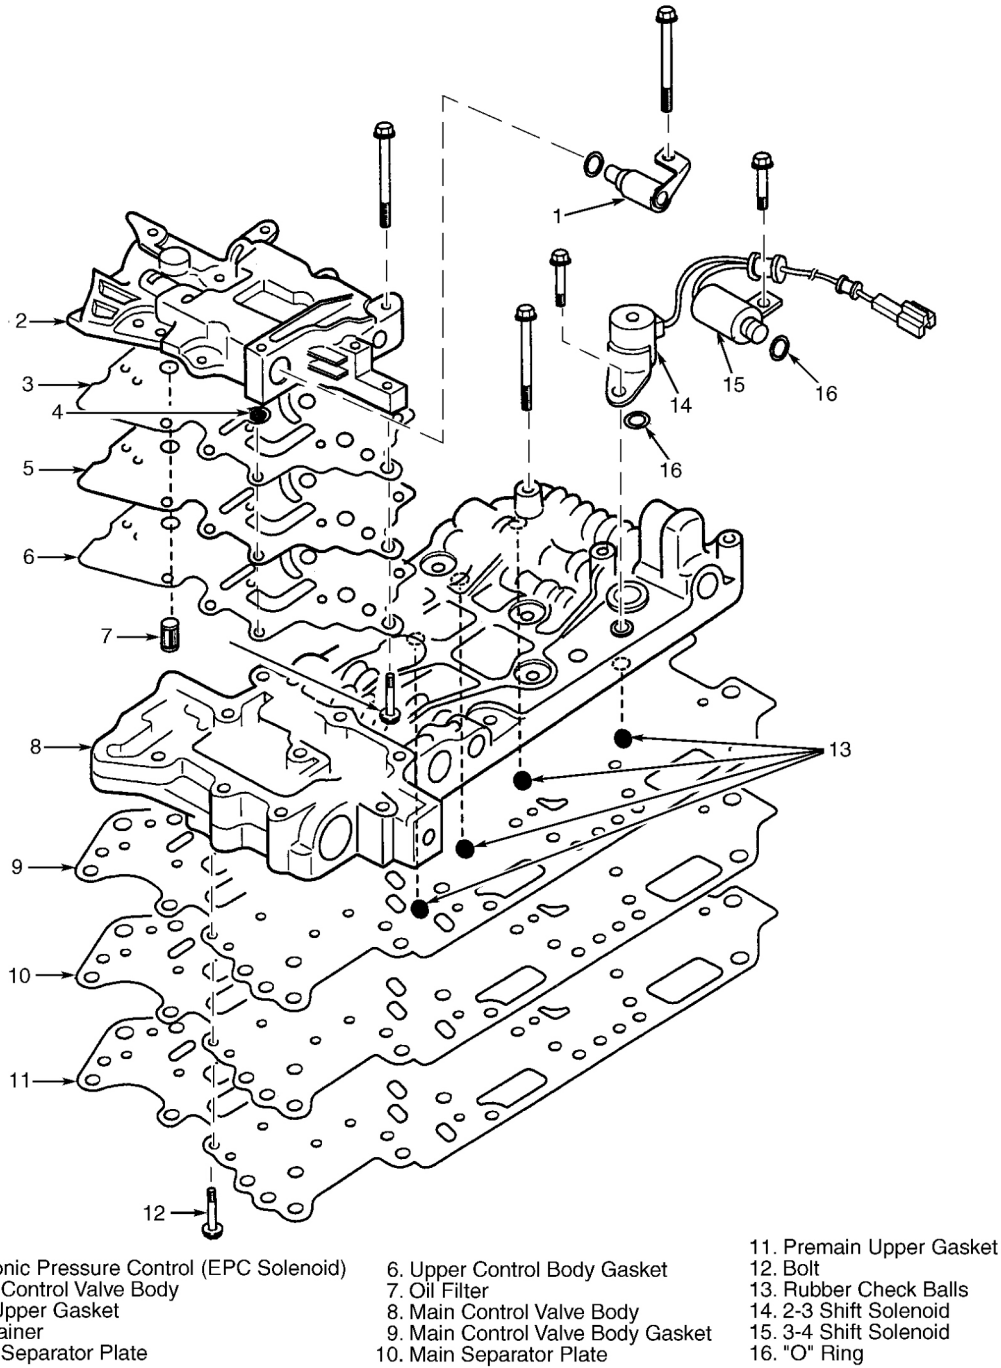

Fig. 35: Exploded View Of Main & Upper Valve Bodies
1. Remove oil filter and "O" ring. Remove oil pipe from lower valve body. Remove 1-2 shift solenoid and TCC solenoid with "O" rings. Remove 2-3 shift solenoid and 3-4 shift solenoid with "O" rings. See **Fig. 34** and **Fig. 35**.